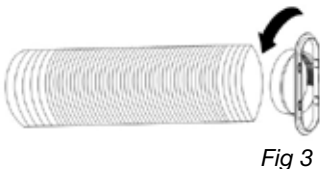

Fig 3
2. Extend the other side of the hose and screw it to the hose outlet (Fig 3).